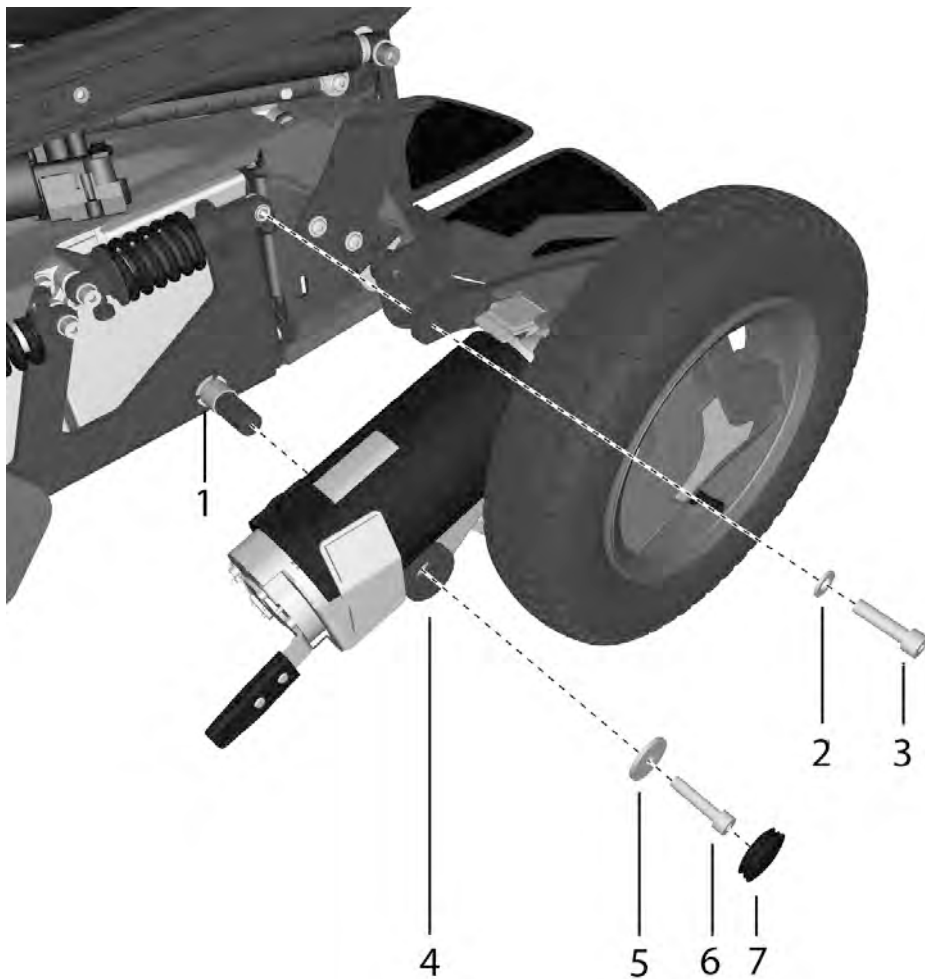

Figure 50. Fitting/removing the Front link arm
3. Fit the link arm (4) on the axle using just your hands. Check that the link arm is fully located on the axle. See fig.50.
4. Fit the screw (6) and washer (5). Tighten the screw with a torque wrench. **Tightening torque: 24Nm / 17.7 Ft/lbs** See fig.50.
5. Fit the shock absorber on to the link arm. It is fitted with one screw (3) and washer (2). See fig.50. Tighten the screw with a torque wrench. **Tightening torque: 24Nm / 17.7 Ft/lbs**
6. Fit the cover (7) on to the link arm. See fig.50.